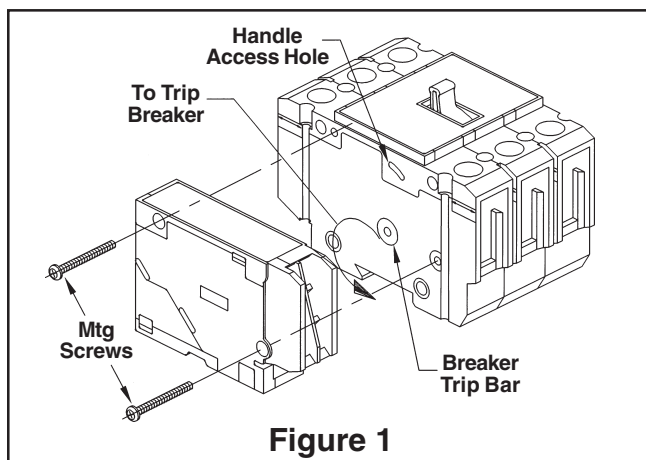

Figure 1
- C. If the circuit breaker is not in the "TRIP" position, use a #1 Phillips Head screwdriver to rotate the breaker trip bar counter-clockwise from the left side as indicated in Figure 1.
- A. Align the accessory module with the circuit breaker as shown in Figure 1. Engage the accessory switch lever (if present) to the "handle access hole" and the accessory trip bar (if present) to the "breaker trip bar" hole by moving the breaker handle toward the "OFF" position. Align the two projections on the accessory module and position the accessory module next to the circuit breaker.